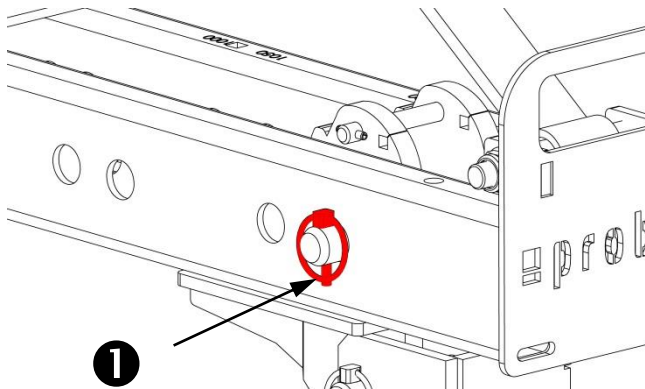
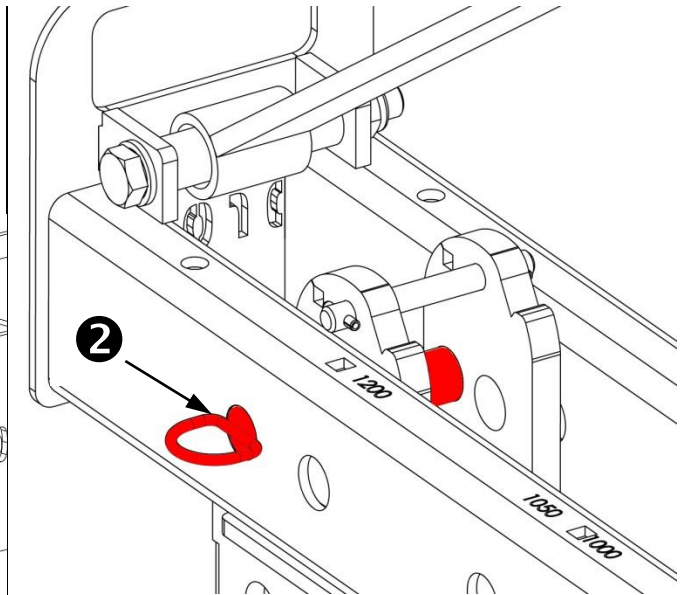

Fig. 10
Fig. 11
5.1.7 Procedure: Adjustment gripping range (NW)
- To adjust the respective nominal widths (NW), first remove the linch pin (1) on the pin (2) and then pull out the locking bolt (2), see Fig. 10 and Fig. 11.
- Re-insert the locking bolt (2) into the corresponding hole and secure it again with the linch pin (1). See Fig. 10 and Fig. 11